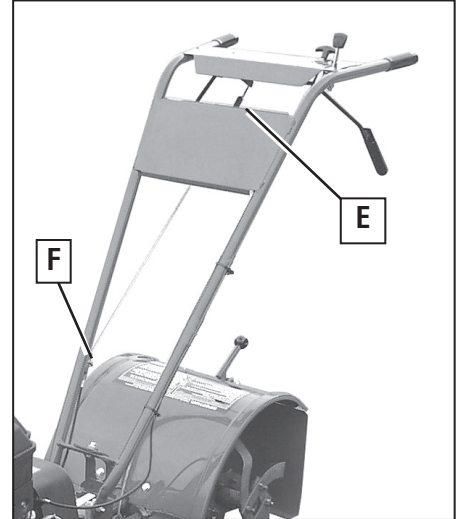
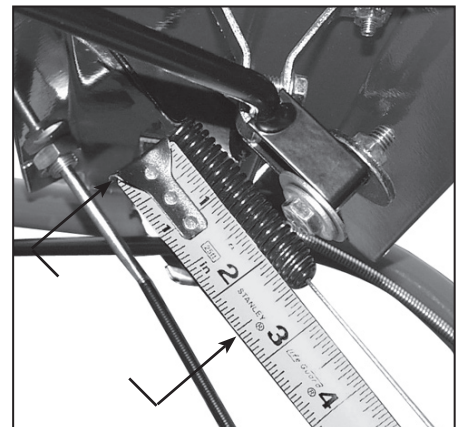
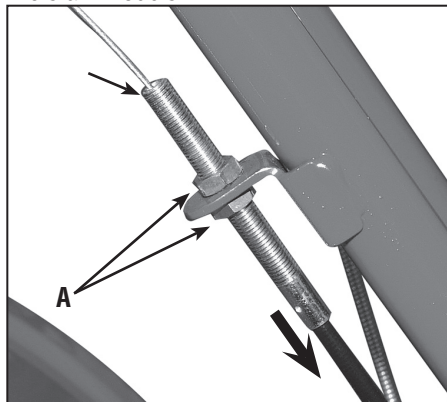

Figure 5-10: Location of forward clutch cable spring (E) and forward cable adjuster (F).
Figure 5-11: Correct spring length when Forward Clutch Levers are engaged is 2-1/2".
Figure 5-12: Move forward clutch cable adjuster down for more belt tension.
2. The coiled part of the forward clutch spring (E, Figure 5-10) measures 2" in length when the Forward Clutch Control levers are not pulled up. Pull either Forward Clutch Control Lever up against the handlebar and measure the length of the coil on the forward clutch spring. Tension is correct if the length of the extended coil is 2-1/2" (see Figure 5-11). The forward clutch control cable needs adjustment if the extended length of the coil is not 2-1/2". See *Adjusting the Forward Clutch Belt* for a procedure.
forward clutch cable adjuster (F, Figure 5-10). Use two 1/2", open-end wrenches to loosen the two jam nuts (A, Figure 5-12) a few turns.
3. Move cable adjuster (B, Figure 5-12) downward for more belt tension (see Figure 5-12).
4. Hand tighten the jam nuts and pull the Forward Clutch Control levers up against the handlebar. Measure the spring coil (Figure 5-11). The extended length of the coil should be 2-1/2". Repeat this procedure until the extended spring length is correct.